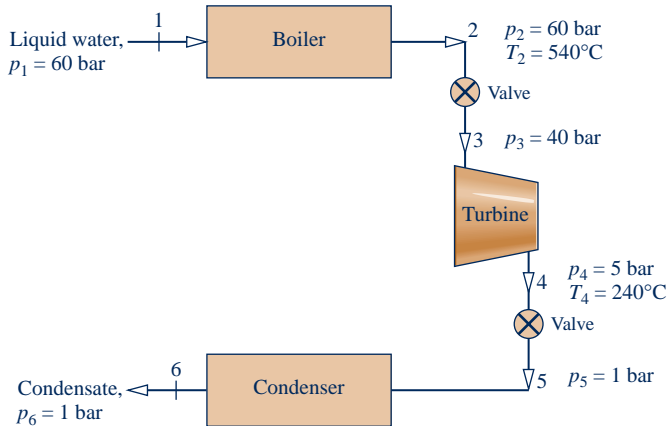

Fig. P6.115
6.115 Figure P6.115 shows several components in series, all operating at steady state. Liquid water enters the boiler at 60 bar. Steam exits the boiler at 60 bar, 540°C and undergoes a throttling process to 40 bar before entering the turbine. Steam expands adiabatically through the turbine to 5 bar, 240°C, and then undergoes a throttling process to 1 bar before entering the condenser. Kinetic and potential energy effects can be ignored.